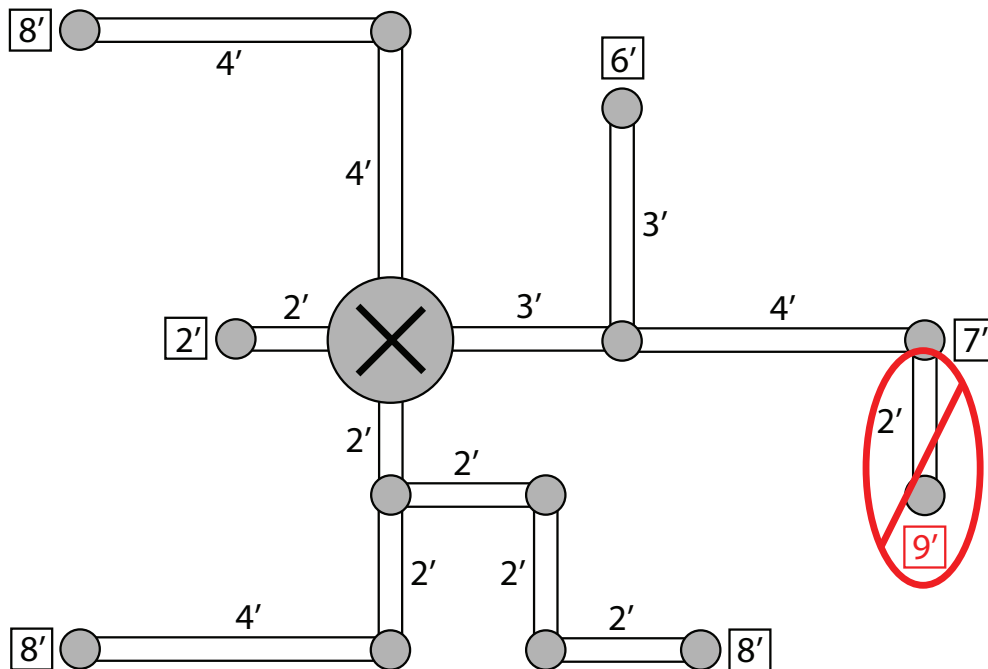

Fig. 1
- There must not be more than 8 ft of luminaire travel from power feed (X) in any direction (Fig. 1).